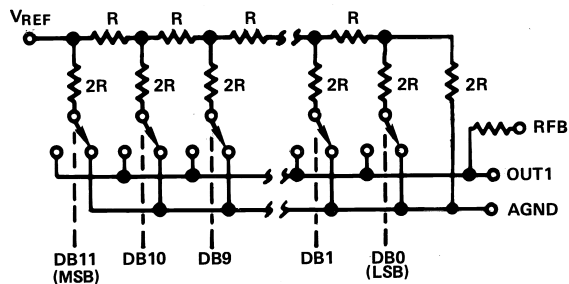
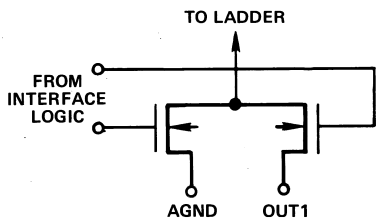

Figure 1. Simplified D/A Circuit of AD7545A
Figure 2. N-Channel Current Steering Switch
Figure 1 shows a simplified circuit of the D/A converter section of the AD7545A, and Figure 2 gives an approximate equivalent circuit. Note that the ladder termination resistor is connected to AGND. R is typically 15 kΩ.
One of the current switches is shown in Figure 2. The input resistance at VREF (Figure 1) is always equal to R. Since RIN at the VREF pin is constant, the reference terminal can be driven by a reference voltage or a reference current, ac or dc, of positive or negative polarity. (If a current source is used, a low temperature coefficient external RFB is recommended to define scale factor.)
Figure 1 is a schematic diagram of the AD7545A DAC circuit. The circuit includes an AD7545A DAC, an AD711 op-amp, and a second AD711 op-amp configured as a buffer. The DAC output (OUT1) is connected to the first AD711 op-amp, which is also connected to the second AD711 op-amp. The second AD711 op-amp output is VOUT. The circuit is powered by VDD and VREF. A data input (U1) is connected to the DAC. Resistor values are specified: R1* (18), R2* (20), R3 (10k), R4 (20k), R5 (20k), R6 (5k). Capacitor C1 is 33pF. The circuit is labeled with pin numbers 1, 2, 4, 11, 12, 18, 19, 20, 21, 22, 23, 24, 25, 26, 27, 28, 29, 30, 31, 32, 33, 34, 35, 36, 37, 38, 39, 40, 41, 42, 43, 44, 45, 46, 47, 48, 49, 50, 51, 52, 53, 54, 55, 56, 57, 58, 59, 60, 61, 62, 63, 64, 65, 66, 67, 68, 69, 70, 71, 72, 73, 74, 75, 76, 77, 78, 79, 80, 81, 82, 83, 84, 85, 86, 87, 88, 89, 90, 91, 92, 93, 94, 95, 96, 97, 98, 99, 100.
The ladder termination resistor of the AD7545A (Figure 1) is connected to AGND. This arrangement is particularly suitable for single supply operation because OUT1 and AGND may be biased at any voltage between DGND and V_{DD} . OUT1 and AGND should never go more than 0.3 volts less than DGND or an internal diode will be turned on and a heavy current may flow that will damage the device. (The AD7545A is, however, protected from the SCR latchup phenomenon prevalent in many CMOS devices.)